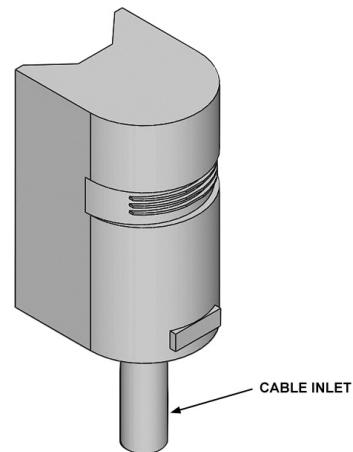

FIGURE 16. OUTDOOR SENSOR
2. Outdoor Terminals: In case of Hydronic Boilers, they are connected to the outdoor sensors. But in case of Hot water Boilers, they are not connected. See Figure 15. The outdoor sensors must be mounted with cable inlet facing down as shown in Figure 16. The maximum length of the wire connecting from the boiler to the outdoor sensor must be no more than 50 feet.